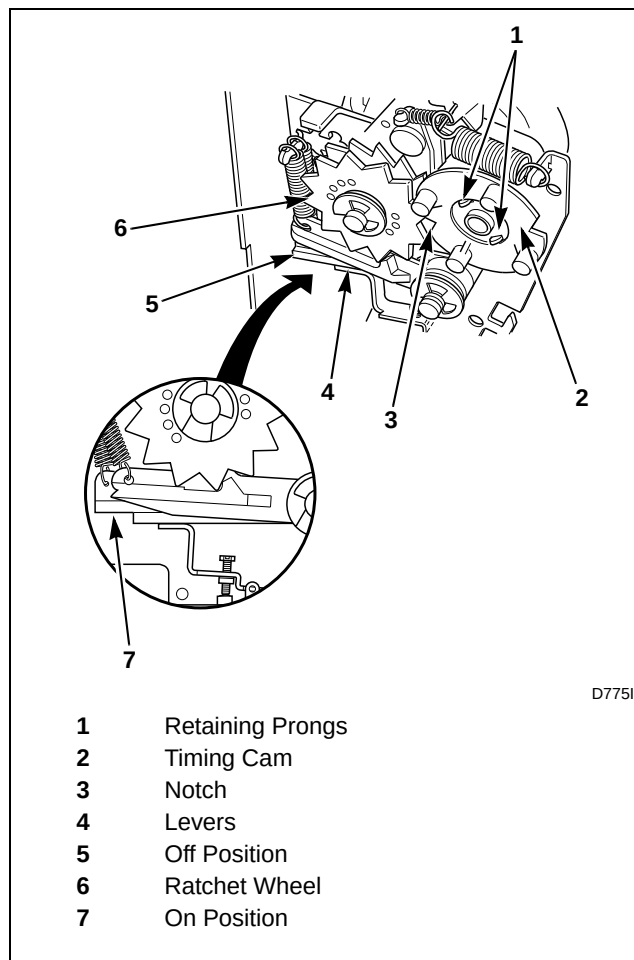

Figure 1
**NOTE:** Adjust ratchet wheel and timing cam to "OFF" position prior to putting dryer into use. Refer to *Figure 1* for proper position.